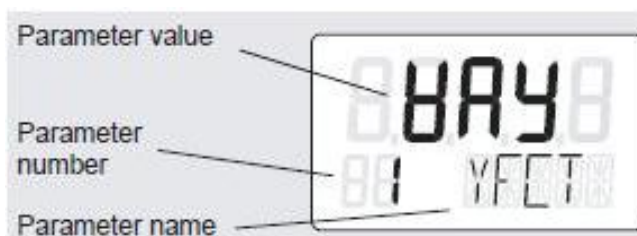

FIGURE 6 PS2 Configuration Mode Display (sample)
8. Press and hold [HAND] button to enter configuration mode. When display changes, release button. See Figure 6.